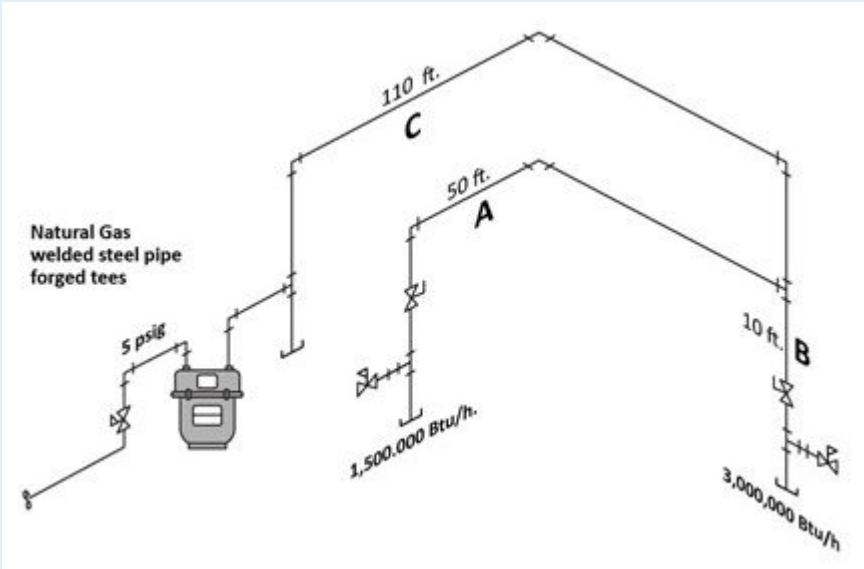

Figure 2
1. Size the drawing in Figure 2 and show all calculations.